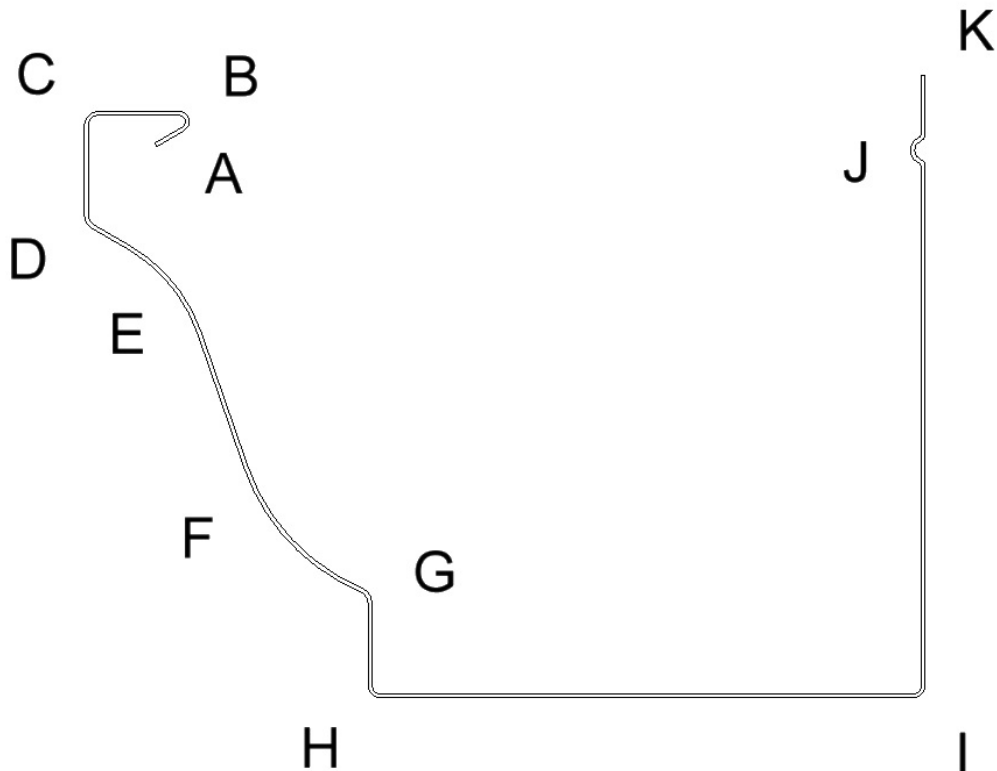

Figure 87: Points on Gutter Profile
- Check the inside of the gutter at points “H”, “I” & “D” (Figure 87) for any double track cause by the skate forming rollers and face assembly.